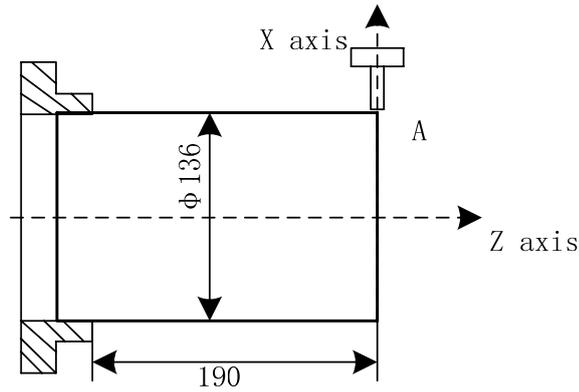

Fig.10-9
(9) The tool traverses to the safe position, press the tool change key to execute No.3 tool in Manual mod;
(10) The spindle is started, the tool traverses to the toolsetting point as shown in Fig.10-9, point A;